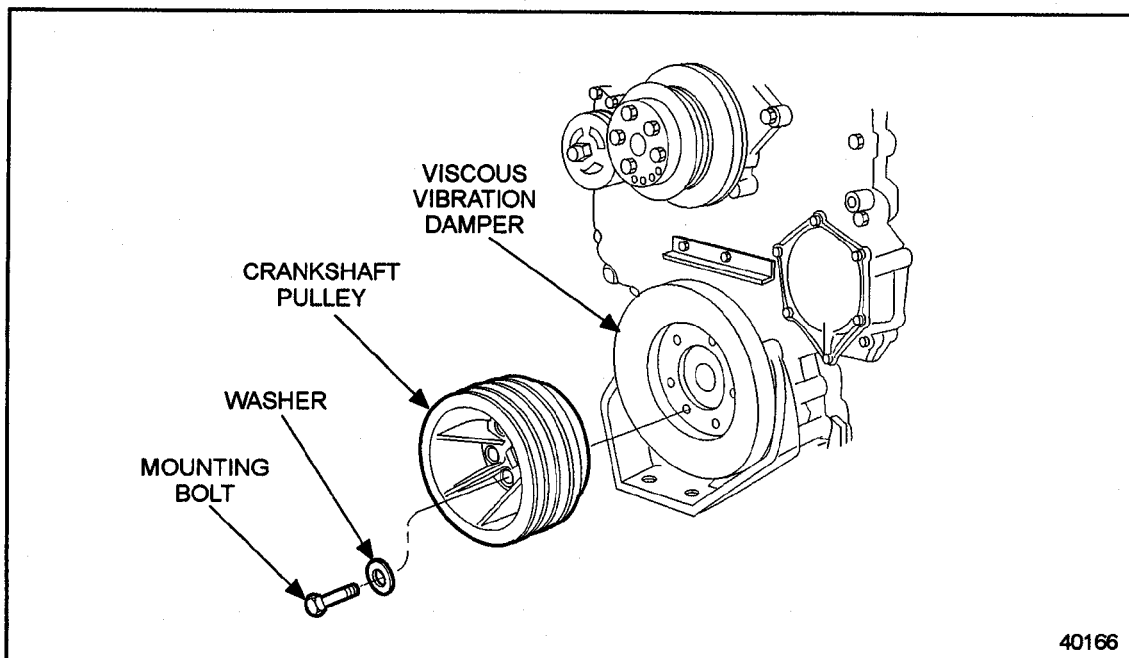

Figure 1-213 Crankshaft Pulley Mounted Directly to the Crankshaft
6. Remove two of the six crankshaft pulley-to-crankshaft attaching bolts and hardened washers that are 180 degrees apart. Discard the bolts. These bolts are not reusable. See Figure 1-213.